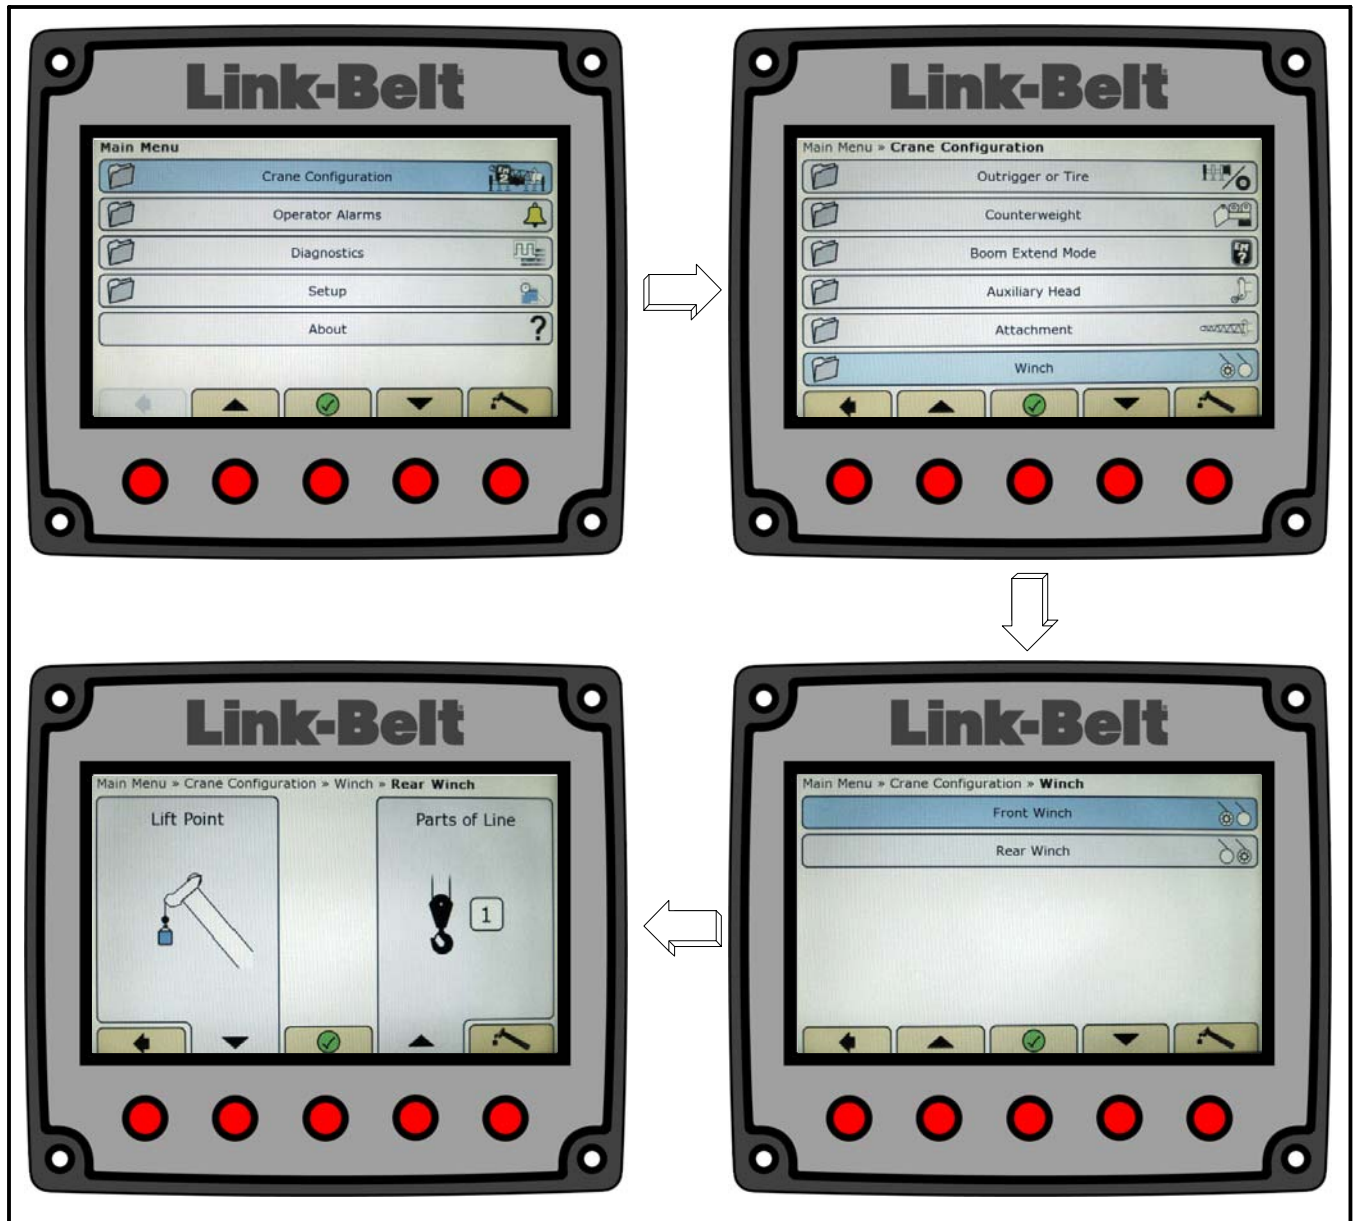

Figure 1–76
19. On the Crane Configuration menu, scroll to Winch, and press the OK/Enter button  to display the front and rear winch. Refer to Figure 1–76.